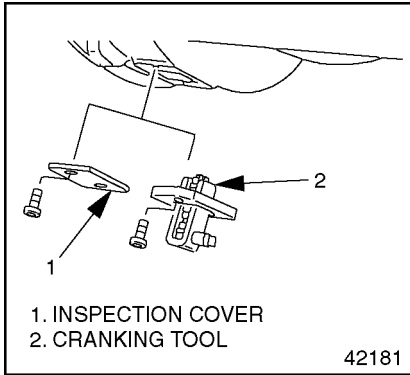

Figure 21 Placing Cranking Tool
3. Fit the cranking tool into the inspection hole on the timing case. See Figure 21.